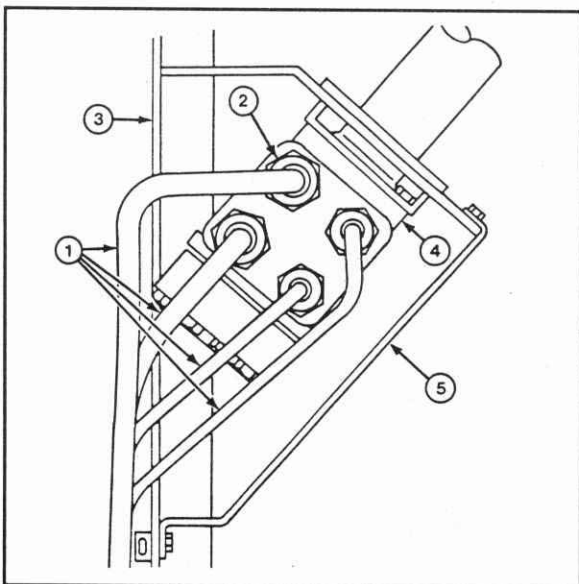

Figure 7-19
7. Clean the steering connections, Figure 7-19.